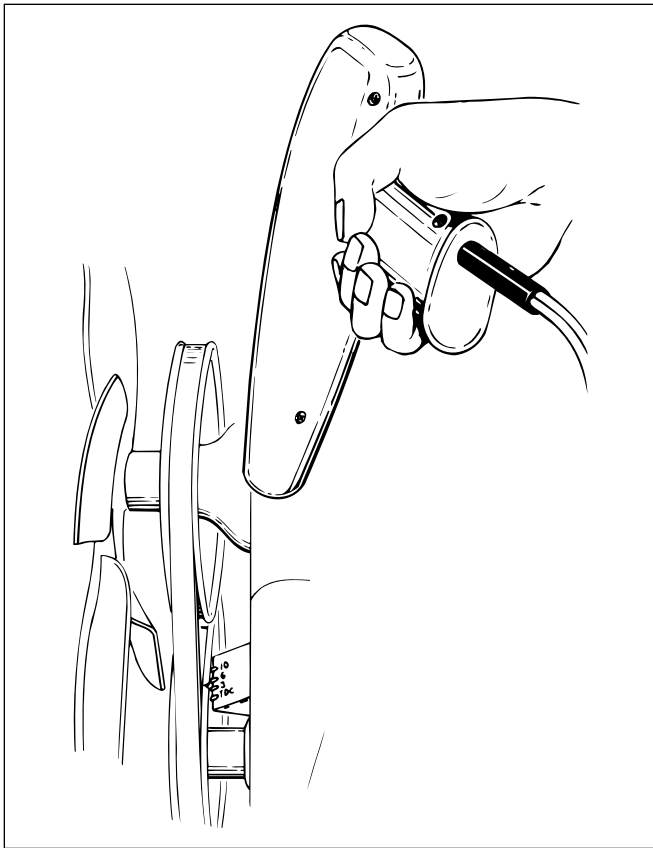

Fig. 5-26. Observing timing marks with a stroboscopic timing light.
5. Point the timing light toward the timing marks. Carefully sight the marks at a right angle, figure 5-26. Looking at the marks from an incorrect position can result in an initial timing error of as much as 2 degrees